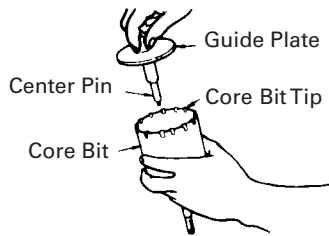

Fig. 17
- (2) Mount the core bit shank to the rotary hammer.
- (3) Insert the center pin into the guide plate until it stops.
- (4) Engage the guide plate with the core bit, and turn the guide plate to left or right so that it does not fall even if it faces downward. (Fig. 17)